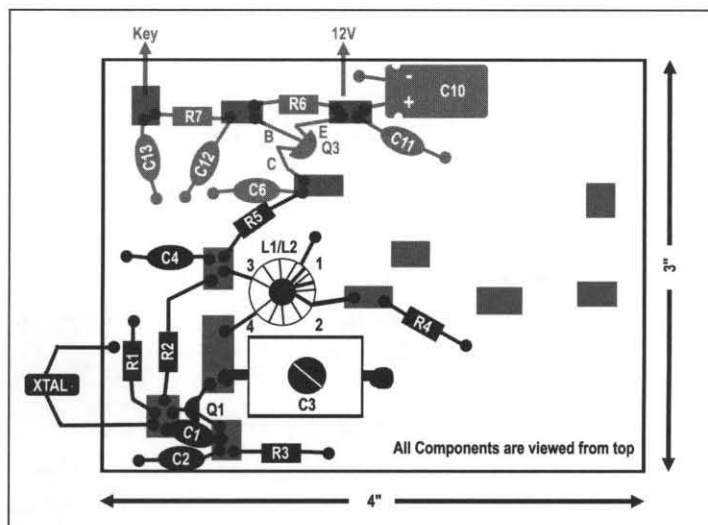

Figure 7—Building the oscillator section.
- ___ Mount L1/L2 as shown in Figure 7.